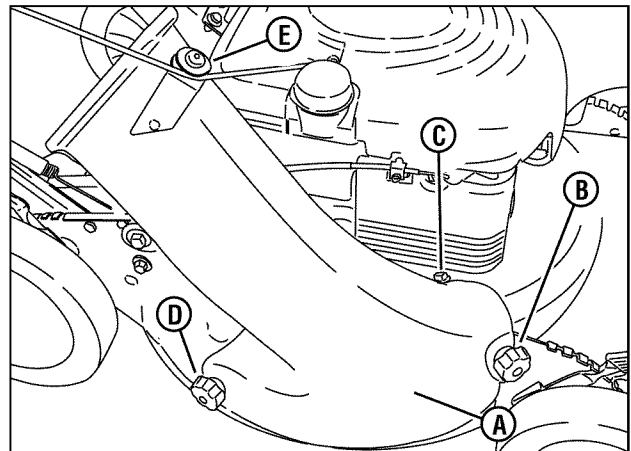

Figure 12: Installing the grass bag adapter
2. Install the adapter (**A, Figure 12**) to the deck in place of the recycling cover, making sure that: